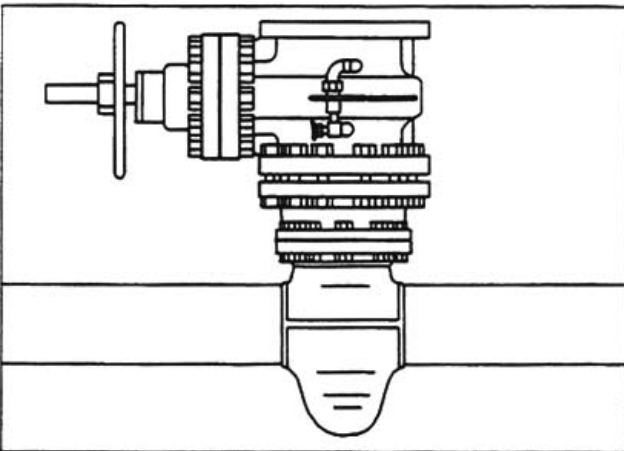

FIGURE 6
- b. All 4" fittings and all 6" fittings and 8" fittings having Class 150 or 600 flanges require a valve adapter between the fitting and the valve. **Figure 6.** At both of these flanged joints check to be sure the gaskets are in good condition and in place. The bolt nuts for both joints should be loose at this point to permit gate valve and valve adapter to be shifted slightly if necessary.